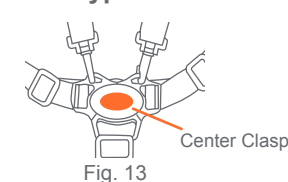

Fig. 13
- 13) • To release, push the button on center clasp and the two harness buckles will pop free (Fig. 13).